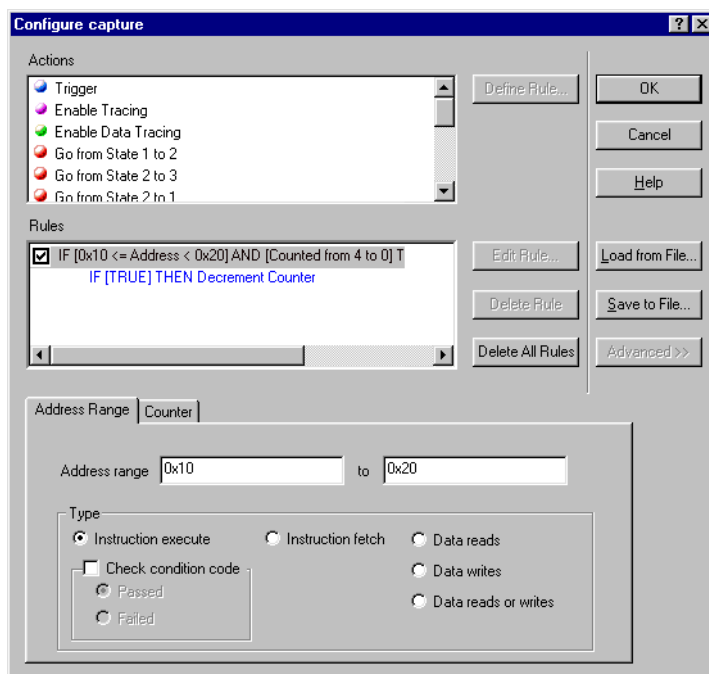

Figure 5-24 Using the tabbed dialog box
3. Click on **Advanced>>** to view its details. The details appear on one or more tabs at the bottom of the dialog box, as shown in Figure 5-24.
4. To modify the rule, select the tab displaying the specific resource whose details you want to modify, and change any of the settings of these details (in Figure 5-24 on page 5-47, the rule pertaining to the Address range has been selected). Click **OK** to store the changes. Alternatively, click **Cancel** if you want to discard any changes made.
In Figure 5-24 on page 5-47, the first **Address range** tab relates to the first rule in the list. To modify settings for the decrement counter rule, select the **Counter** tab.